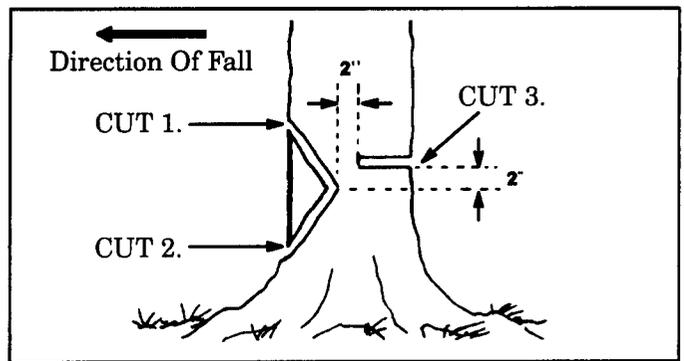

Figure 19
NOTE: If the tree has large buttress roots, remove them before making the notch. Cut into the buttresses vertically, then horizontally. Figure 19 .
- a. Make the notch cut. Figure 19 .
- CUT 3. Make the felling cut on the opposite side of the notch about 2" higher than the center of the notch. Figure 19 .